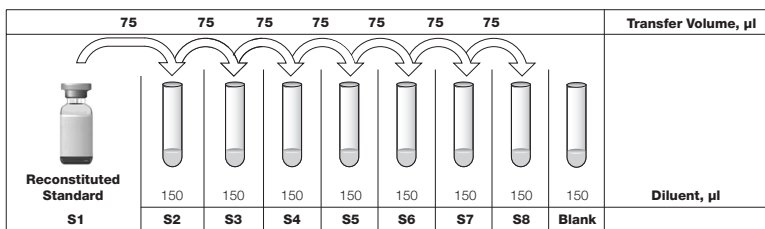

Fig. 3. Preparing a threefold dilution series with a single reconstituted standard.
2. Add **150 μ l** of the appropriate diluent to tubes S2–S8 (Figure 3).
5. Continue with 1:3 (threefold) serial dilutions as shown in Figure 3.